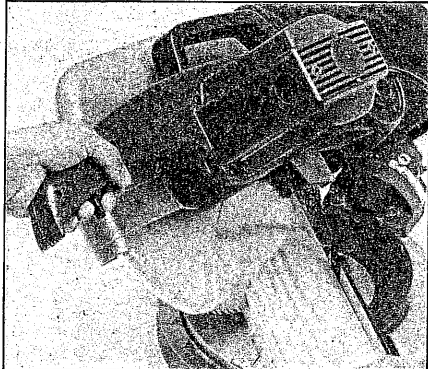

Fig. 27
9. Slowly lower the blade into and through the workpiece (Fig. 27). Then, lift the blade out of the workpiece and release the trigger switch. Wait until the electric brake stops the blade from turning before removing the workpiece from the saw table.